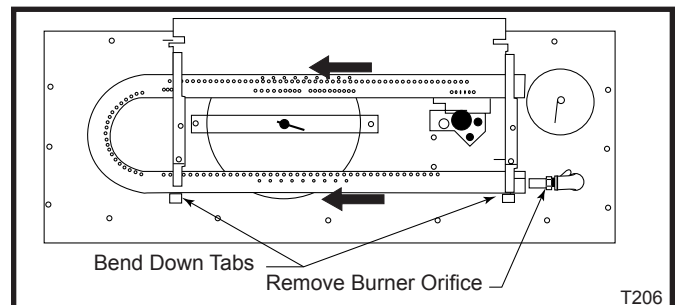

Fig. 40 Move burner tube to replace orifice.
3. Move the burner to the left and off the burner orifice. (Fig. 40)